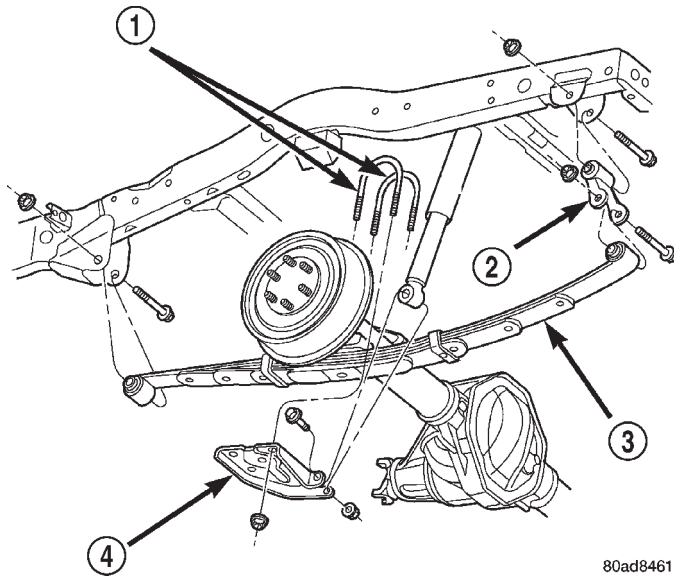

Fig. 4 Leaf Spring
- (1) Raise the vehicle at the frame.
- (2) Support the axle to relieve the weight of the axle from the springs.
- (3) Remove the wheel and tire assemblies.
- (4) Remove shocks from the spring plates.
- (5) Remove the nuts, the U-bolts and spring plate from the axle (Fig. 4).
- (6) Remove the nut and bolt from the front spring eye.
- (7) Remove the nut and bolt form the rear spring eye.
- (8) Remove the spring from the vehicle.
- (9) Remove the shackle from the frame bracket.